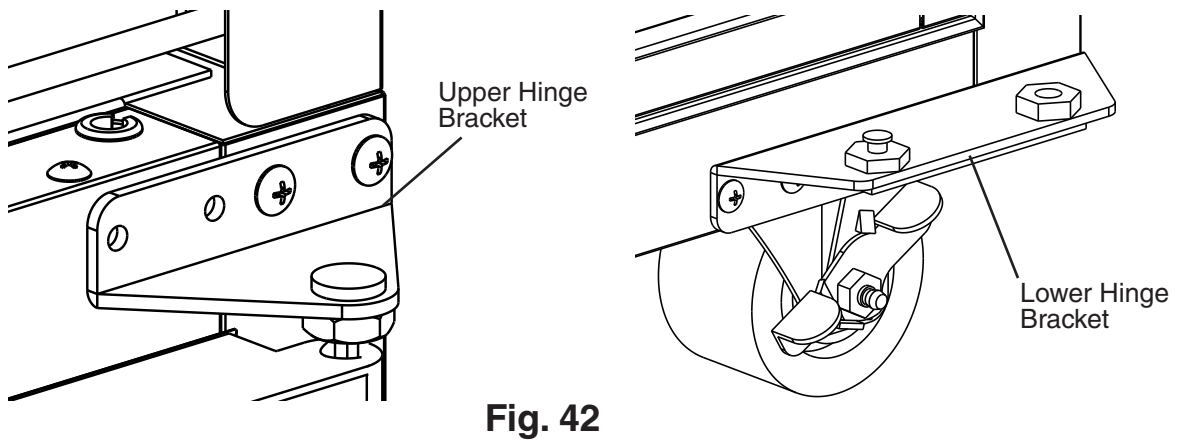

**Fig. 40**
- 5) Grip wrench B in a new position on the tension rod and hold (prepare for tension pressure), then using wrench A, loosen the lock nut again. See Fig. 40.